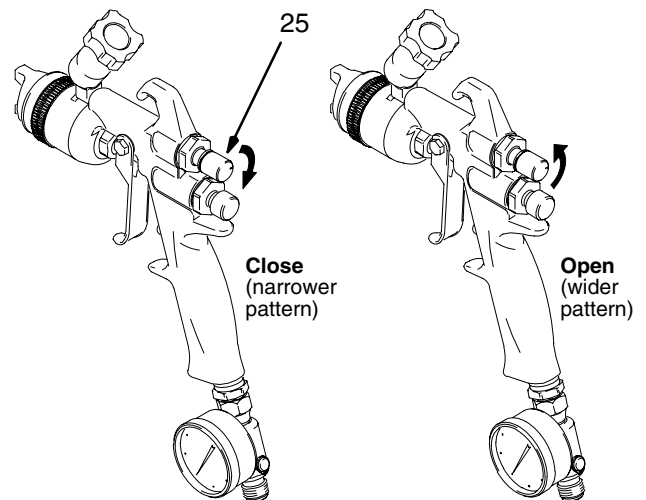

Fig. 11
Rotate the air cap as needed to achieve the desired spray pattern direction. To create a round pattern, turn the pattern air off by turning the pattern adjustment knob (25) fully clockwise. Refer to Fig. 11.